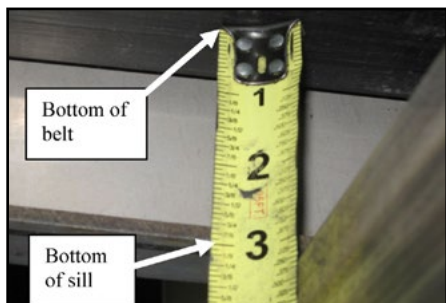

Figure 1
- B. Make sure the conveyor is shut off. Measure vertical distance from bottom of sill to conveyor in front of 2nd stake from front. Measurement should be 3” (7.6cm) on both sides of conveyor as shown in Figure 1 & 2. Use front adjusting bolts to tension both sides of conveyor as necessary.